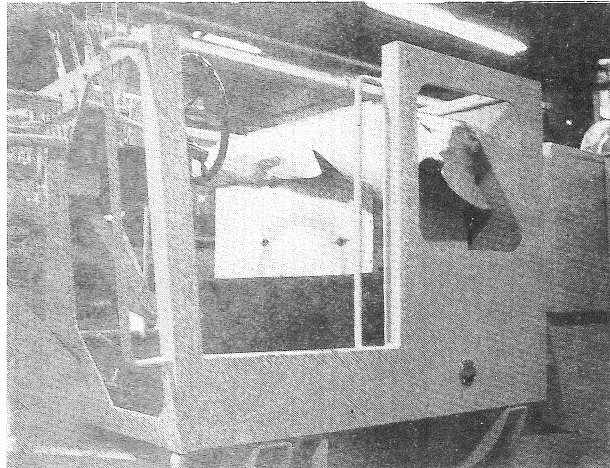

Figure 4
5. Exterior lights, flashers and gauge panel are removed and stored in a crate, which is installed in the lower cab (Fig. 4). The seat is removed and stored in a crate, which is strapped to the moldboard.